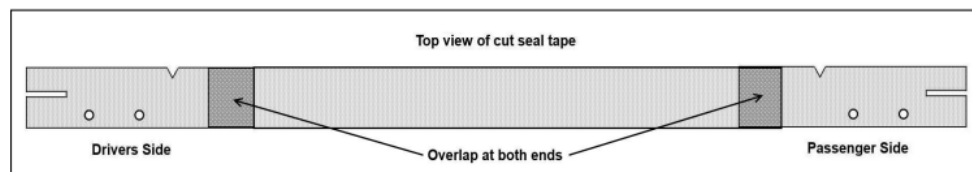

Figure 18
• Required tools: Drill, 4mm Bit, Rivet Gun Use the remainder of the tape to cover the remaining gap between the center section of the headboard and the cabin end of the tub. Overlap the remaining tape evenly at both ends (approx. 30 - 40mm). **Refer Figure 18**.